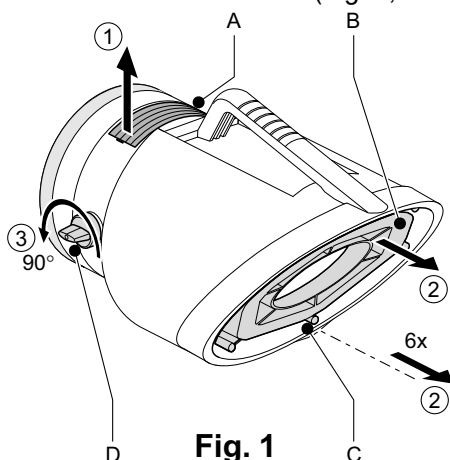

Fig. 1
1. Pop out the sealing plate (Fig. 1, Item A) on the top of the hood with a screwdriver.
2. Remove the six screws (Fig. 1, Item C) and the air-flow focus vanes (Fig. 1, Item B).
3. Open the airflow throttle valve (Fig. 1, Item D).